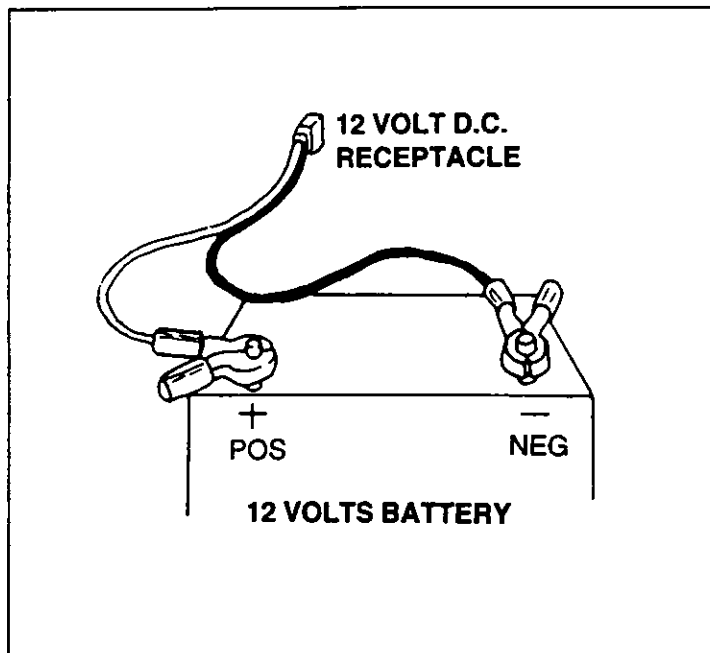

FIG. 10
- Connect battery charge cable connector plug to panel receptacle (Fig. 10), identified by the words "12-VOLT D.C."